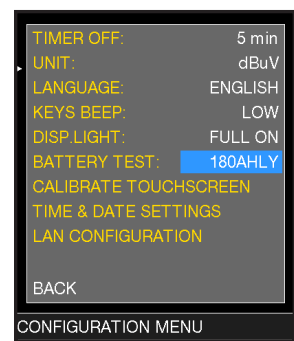

FIG. 3\*
4. To check the battery test results, enter once again into "meter" in the "configuration menu" and read the results (Fig. 3):
- for example 265BF EY (fig.3) = 265 minutes.